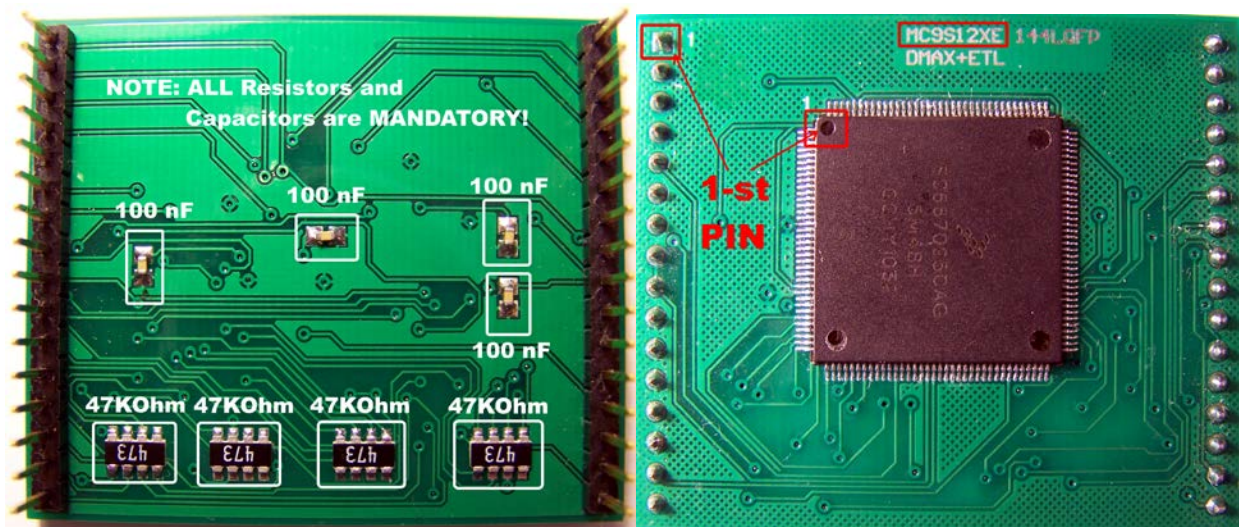

Figure 18 MC9S12XE 144LQFP assembled adapter board
- Assemble the MC9S12XE 144LQFP adapter board (Figure 18). The board and all parts for assembly provided by ETL.
- Solder MC9S12XEP100 MCU on the adapter concerning 1-st pin location (Figure 18).